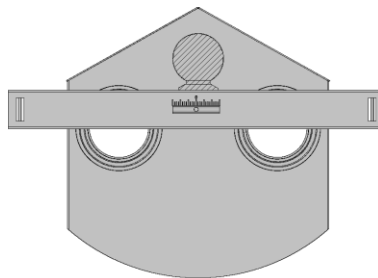

Figure 6-6
8. After leveling the fixed end, adjust the upper rail. The plate hanger on the upper rail must also be level in order for the plates to hang correctly. Check the hanger using the spirit level (see figure 6-6).